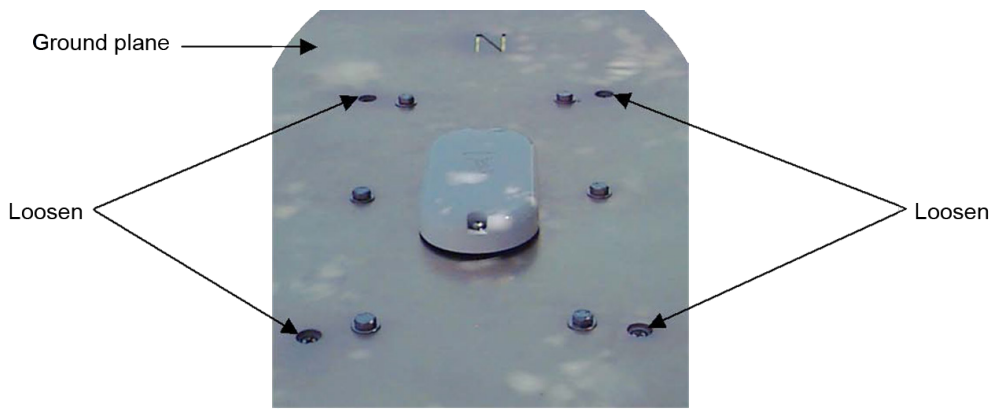

Figure 3. Opening the Sensor Enclosure
9. Open the sensor enclosure by loosening the four countersunk bolts shown in Figure 3. Do not remove the six bolts holding the ground plane to the enclosure lid.